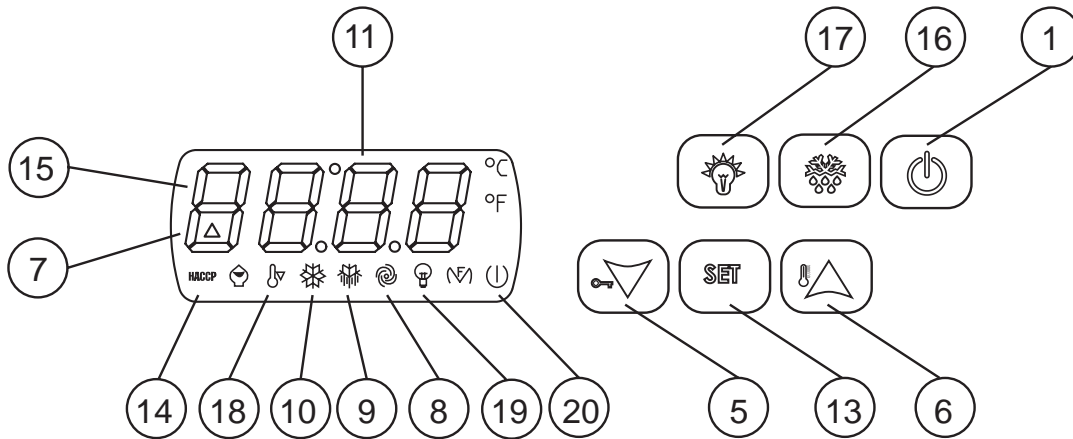

Fig.3
9.1 Description of the controls and buttons (Fig. 3)
Start-up sequence (fig.3).
9.2.2 Stopping methods (fig.3)
▶ press the on-standby button (1) for 5 seconds	the display will turn off
9.2.3 3 adjustment of the internal clock to the current time (fig. 3)
Setting the temperature (Fig. 3)
9.2.5 Automatic and manual defrost (Fig. 3)
9.2.6 Keypad lock (fig.3)